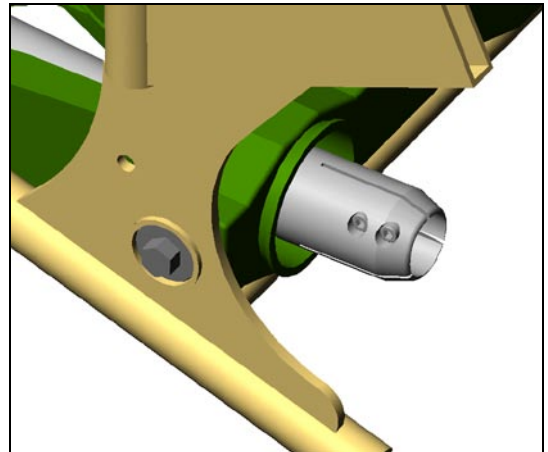

Figure 33
- c. Remove pinch bolts (6mm Allen cap head screws) from drive shaft, apply blue Loctite to bolts and reinstall. Evenly tighten pinch bolts around transmission output shaft. Torque to 12 lbs. ft. Figure 33